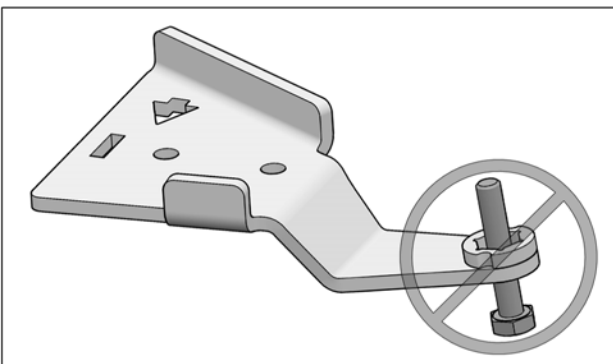

Fig. 14
**CAUTION:** Make sure that the bolt is inserted in the right direction. See Fig. 14